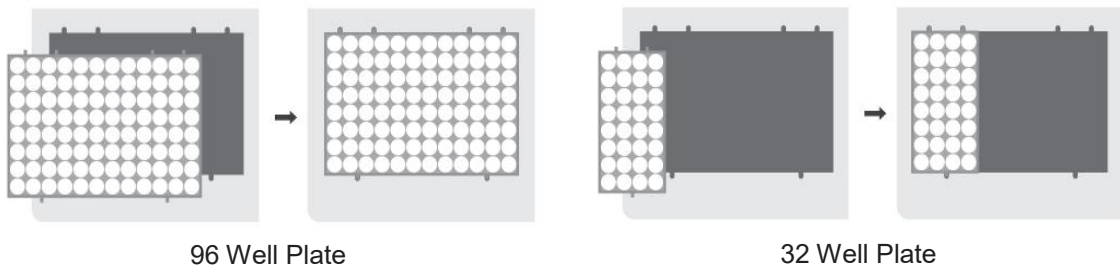

Figure 8: Positioning of the 96 or 32 well plates on the plate loader
- Place the extraction plate on the Plate Loader. Note that the plastic cavities needs to fit in their position (Figure 8).